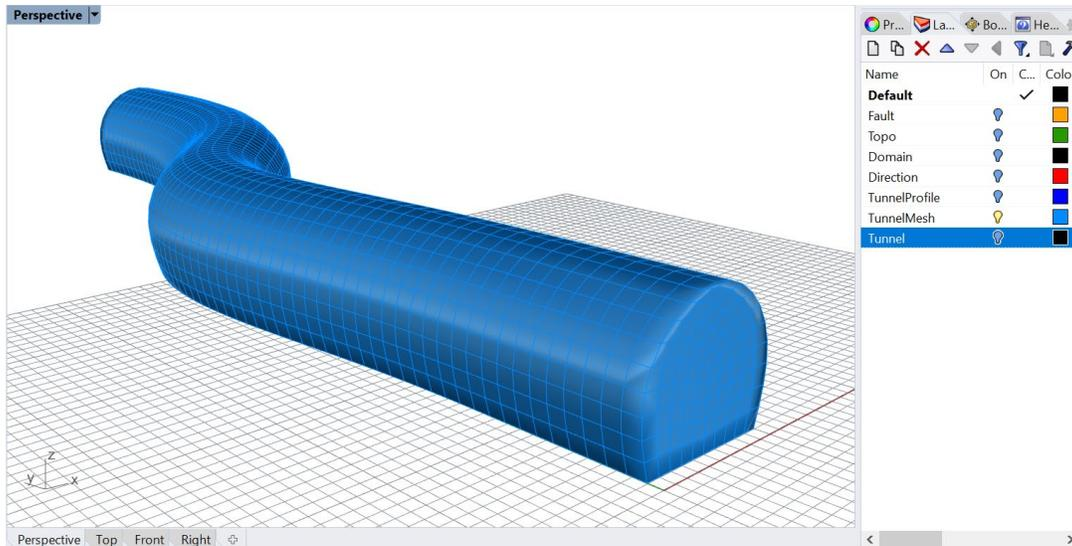

Figure 59: Surface mesh corresponding to the exterior of the tunnel's structured volume mesh.
28. Select all solids corresponding to the tunnel excavation stages and type the **_BR** command or click on the  icon in the *Griddle* toolbar. Use all default **BlockRanger** parameters and set *GenerateSurfaceMesh = ByModel*. **BlockRanger** will create a structured volume mesh for the tunnel and will output it at the user-specified location (keep *FLAC3D* binary format as output format). **BlockRanger** will also create surface mesh corresponding to the tunnel's external surface and will output it into *Rhino* (Figure 59). This surface mesh will be used to create an unstructured volume mesh outside the tunnel.
29. Create new layer "TunnelMesh". Change the layer of newly created surface mesh from "Default" to "TunnelMesh". Now turn off layer "Tunnel", leaving only one layer active as shown in Figure 59.
To create an unstructured domain mesh that is conformal with the tunnel structured mesh, bounding surface mesh presented in Figure 59 will be used.